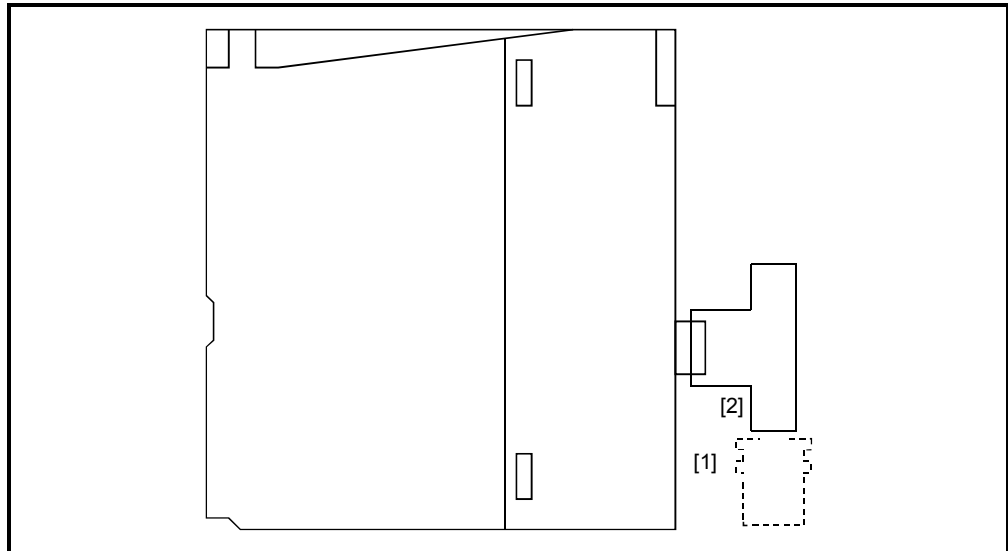

Fig. 5.3 Diagram of 10BASE2 cable connection
- (Step 1) As shown in Fig. 5.3, align the grooves (1) and tab (2) and push in.